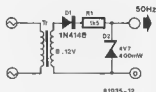

Figure 12. The calibration circuit used to set up the meter.
a. If a speed transducer is used which generates (opto-electronic or inductive) pulses, the calibration circuit shown in figure 12 must be utilised. This will generate 50 Hz pulses and should be connected to the inputs of both modules. After the supply voltage